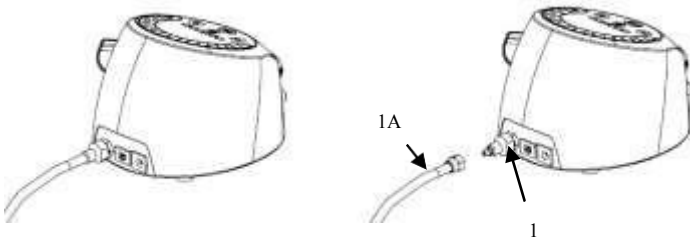

Fig.1
1. Connect the water supply tube provided (1A) to the water inlet connector (1) on the rear of the unit (Fig.1). Push well home before tightening the locking collar, connect a suitable connector to the water supply tube and connect to the water supply source or to an independent fluid source if available – (See accessories) and check for leaks.